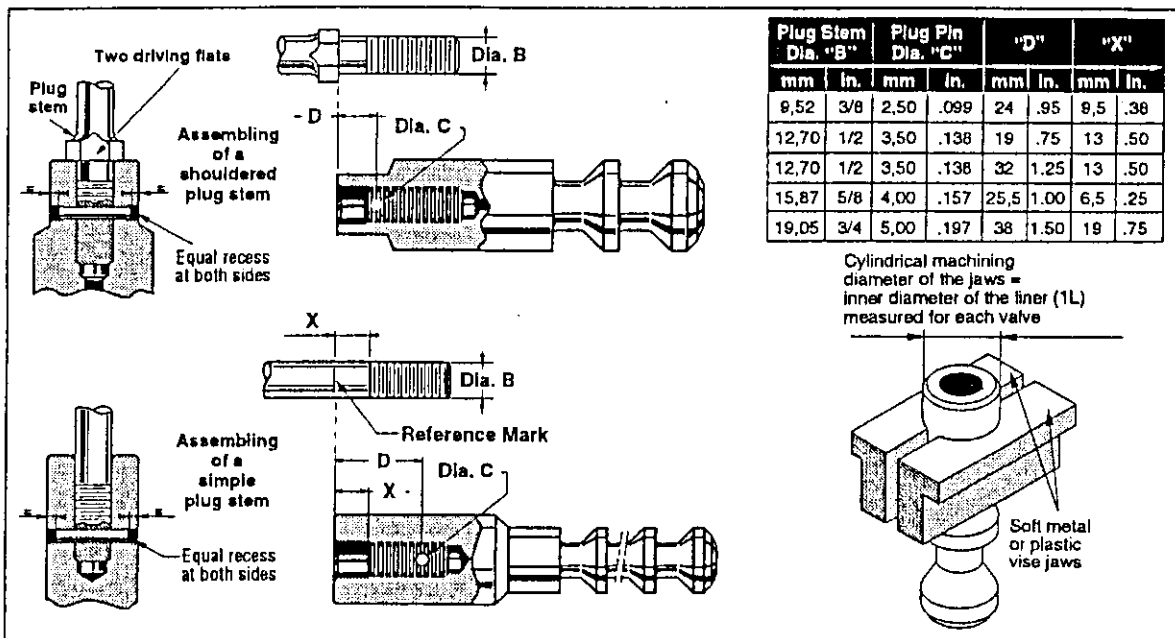

Figure 9
Caution: Before to perform the following steps, measure and note the diameter of old plug stem (screwed part) and old pin and measure the distances "D" & "X". These notes would allow the exact identification of old parts characteristics, by means of table in Figure 9.
Measure the depth of the pilot recess in the plug (X in Figure 9) and make a reference mark to the plug stem at the same distance, from the thread.
Note: While pinning is being performed, care must be taken not to damage the seating surface of plug guide. Always use a soft metal or plastic vise jaws with a cylindrical machining [inner Dia. of the liner (1L)] to hold the plug guide area (see Figure 9).
- match the "C" diameter (see Figure 9), drill the stem or the plug-stem assembly.
- Measure the "D" dimension and mark it on guiding area of the plug, (see Figure 9).
1. Select the correct size pin. [Length of pin must be selected according to guiding part diameter of the plug (see Figure 9)]. Apply a small amount of grease on it, and hand place the pin to the hole inlet.
2. By means of an hammer, introduce the pin into the hole. Complete the pinning operation, taking care to ensure that the pin is recessed by the same amount at both sides, (see Figure 9).